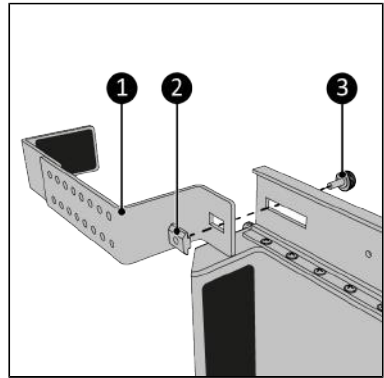

Figure 89.
- Screw the bracket (Figure 89, pos. 3) to the main rail in the front position using the knob screw (Figure 89, pos. 1). Make sure you connect the knob screw to the slide nut (Figure 89, pos. 2).